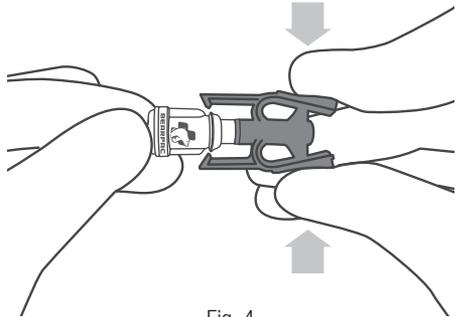

Fig. 4
11. Disconnect the drainage line by holding the catheter firmly and squeezing both sides of the catheter's connector allowing for the catheter connector to be pulled back from the catheter. (Figure 4)